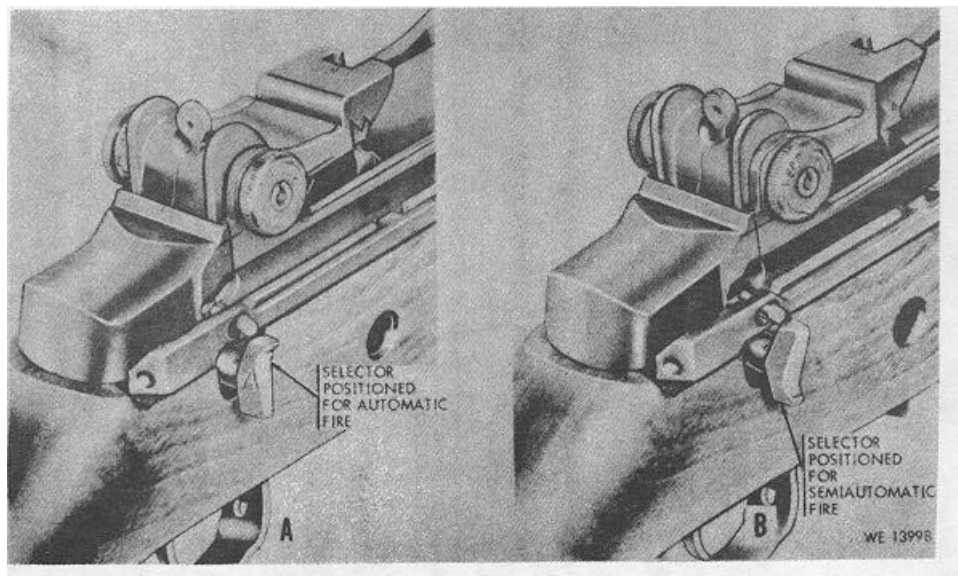

Figure 2-1. Selector set for automatic (A) and semi-automatic (B) fire.
(1) Selector (fig. 2-1) regulates the rate of fire of the rifle. It is located on the right rear side of the receiver.
(2) The letter A stamped on the selector is placed in the 12 o'clock position and facing the operator when set for automatic fire. The void side of selector is facing the operator when set for semiautomatic fire.
b. The cycle of operation is broken down into eight steps. These steps are listed below, together with a brief description of what occurs inside the rifle during each step. With the selector set for semiautomatic fire (fig. 2-1) assume that a full magazine has been loaded in the rifle, that the first cartridge has been fired; and the bolt is to the rear.